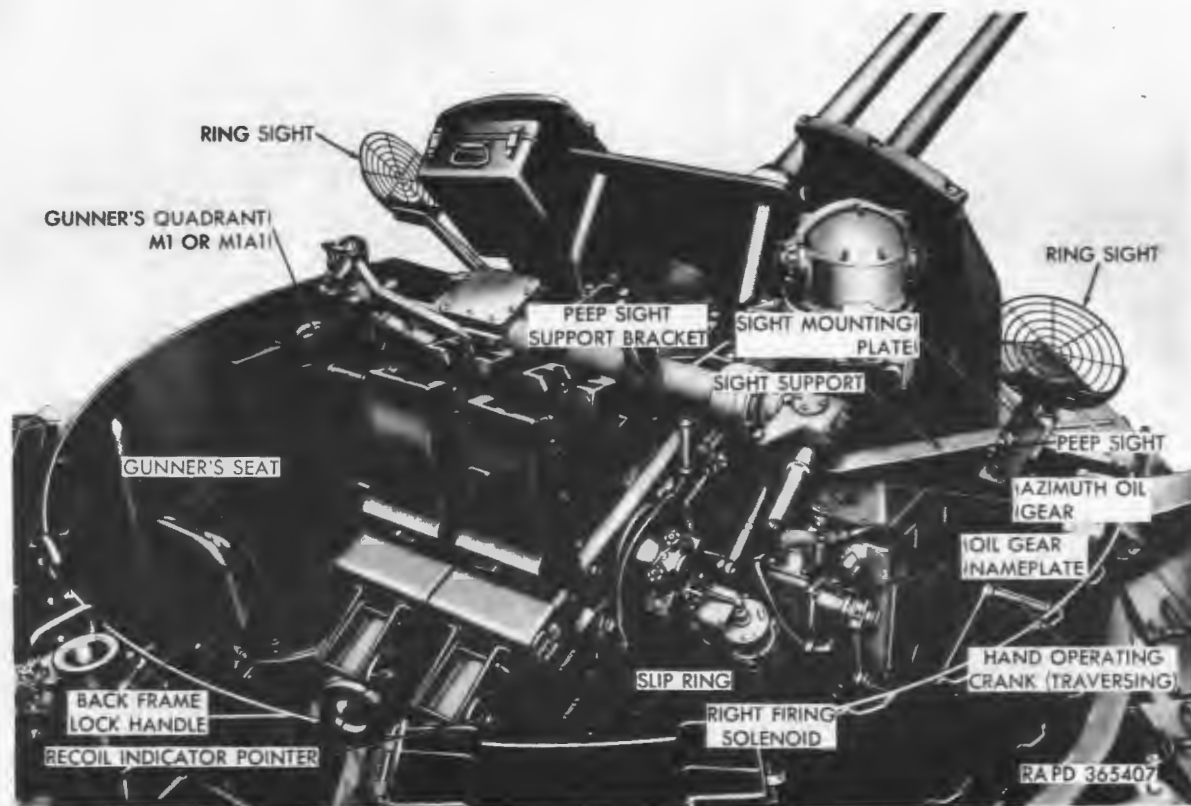

Figure 29. Armament and controls and sighting and fire control materiel installed on right side of gun mount.
- (1) The azimuth oil gear (fig. 29) is mounted on the gun mount platform in front of and to the left of the sight setter's seat. This oil gear provides power to rotate the gun mount through 360° in either direction at variable speeds.
- (1) *General.* The gunner's quadrant M1 or M1A1 (fig. 29) is stowed in carrying case M18, M56 or M182 carried in a tray on the gun mount outer shield to the left of the gunner's seat. The gunner's quadrant is used for leveling the dual gun M2A1, for laying the dual gun in elevation, or for measuring its angle of elevation.